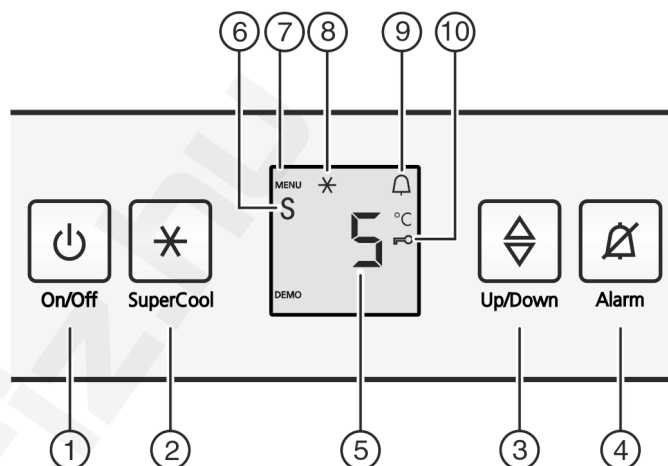

Fig. 2
- Press the On/Off button Fig. 2 (1).
- ▶ Activate setting mode: Press the SuperCool button *Fig. 2 (2)* for around 5 seconds.
- ▷ The menu symbol *Fig. 2 (7)* shines.
- ▶ Use the Settings button *Fig. 2 (3)* to select **c**.
- ▶ Briefly press the SuperCool button *Fig. 2 (2)* to confirm.
- ▶ to activate the child lock, briefly press the SuperCool button *Fig. 2 (2)*.
- ▷ The child lock symbol *Fig. 2 (10)* shines. **c** flashes in the display.
- ▶ to deactivate the child lock, briefly press the SuperCool button *Fig. 2 (2)*.
- ▷ The child lock symbol *Fig. 2 (10)* goes out. **c** flashes in the display.
- ▶ To deactivate the set-up mode: press On/Off button *Fig. 2 (1)*.
- ▶ Press alarm button *Fig. 2 (4)*.
- ▷ The Menu symbol *Fig. 2 (7)* lights up.
- ▶ To call up the Sabbath Mode function: Briefly press the SuperCool button *Fig. 2 (2)*.
- ▶ **To switch on** Sabbath Mode, briefly press the SuperCool button *Fig. 2 (2)*.
- ▶ **To switch off** Sabbath Mode, briefly press the SuperCool button *Fig. 2 (2)*.
- ▶ Deactivate setting mode: Press the On/Off button *Fig. 2 (1)*.
- ▷ The temperature display shows the Sabbath Mode symbol *Fig. 2 (6)* as long as Sabbath Mode is on.
- ▶ Call up temperature function: press the setting button *Fig. 2 (3)*.
- ▶ Change the temperature in 1 °C steps: Press the setting button *Fig. 2 (3)* until the required temperature is indicated in the temperature display.